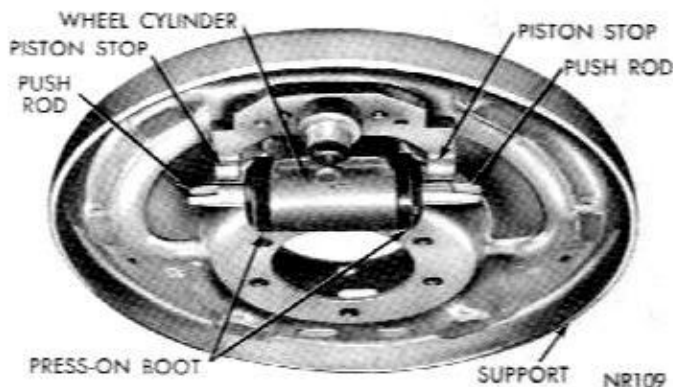

Fig. 3—Wheel Cylinder Piston Stops
(1) With wheel and brake drum removed, remove support attaching nuts and washers.
(2) Remove rear axle shaft and retainer.
(3) Disconnect hydraulic brake line from wheel cylinder.
(4) Disengage brake cable from parking brake lever.
(5) Using a suitable tool compress three flared legs of cable retainer and pull brake cable out of support (Fig. 3).
(6) Remove brake support from rear axle housing.